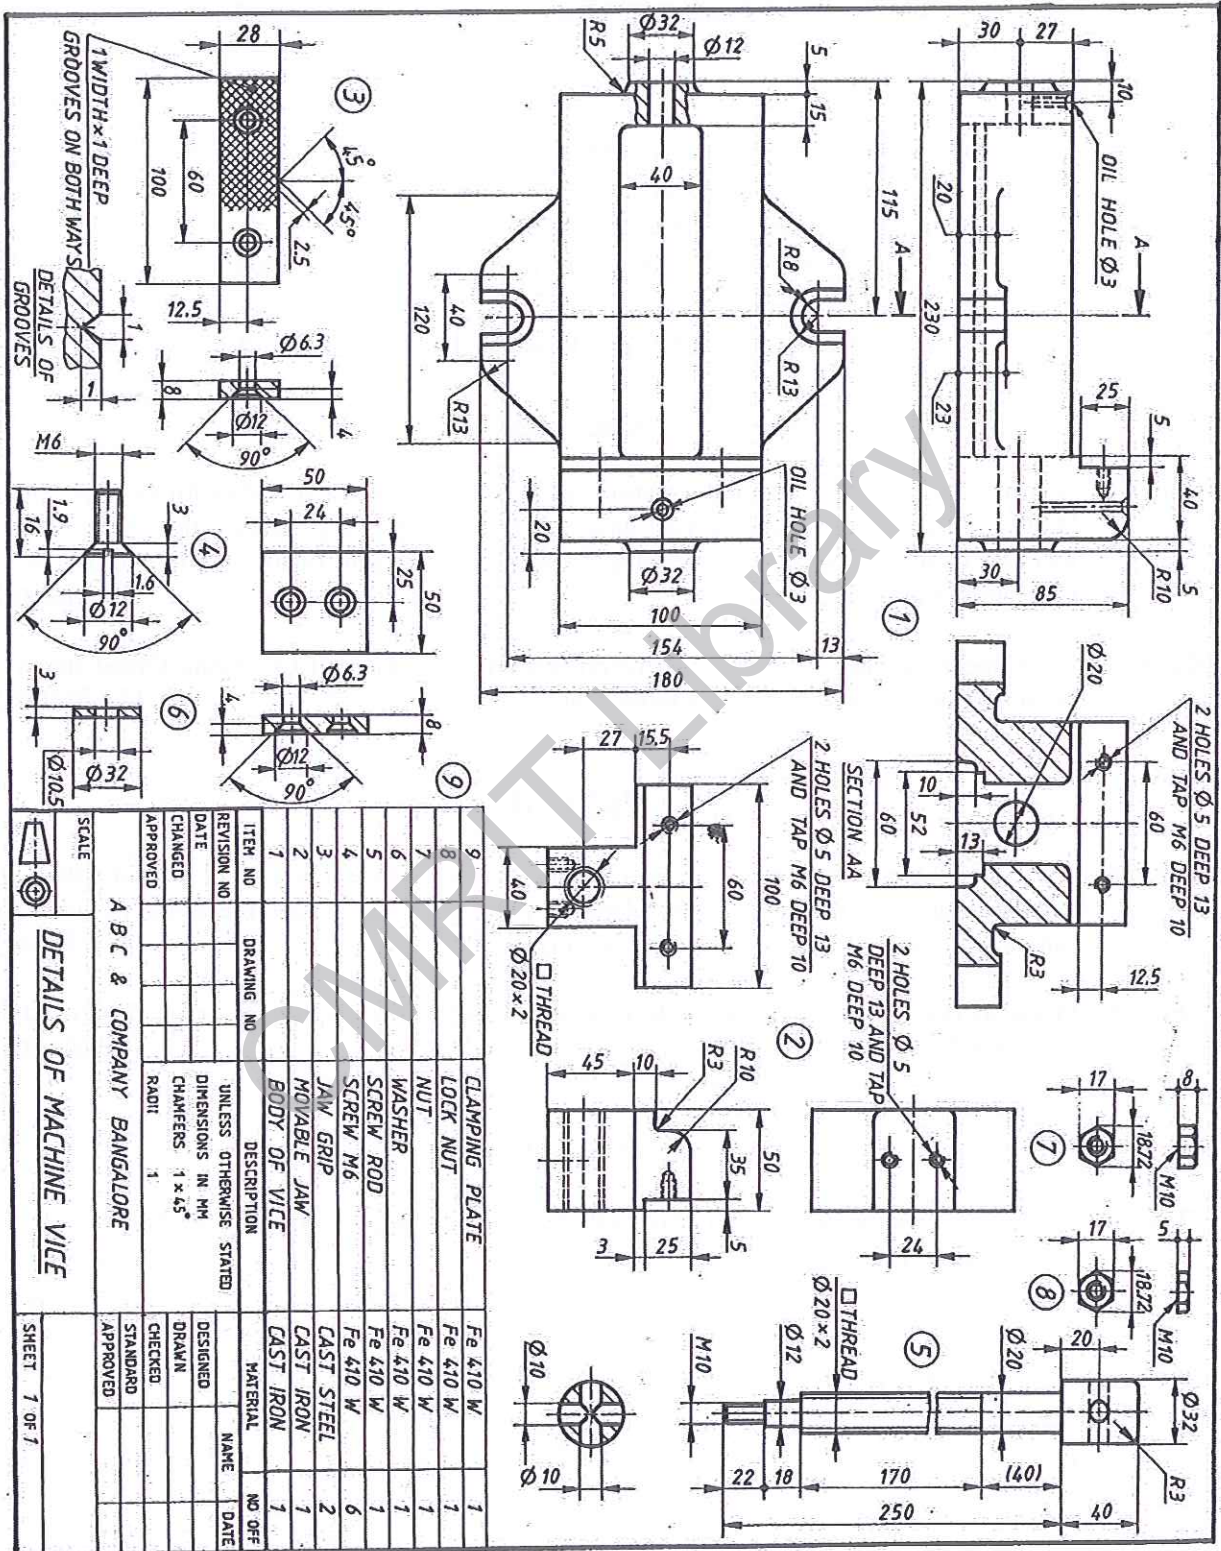

Figure 1. "MACHINE VICE".
- Q.No.5** Figure 1 shows the details of a “MACHINE VICE”. Assemble the parts and draw